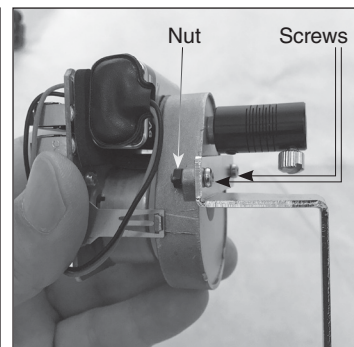

Figure 4. Remove the pre-installed bracket by unscrewing the two attachment screws.
2. Using a small Philips screwdriver, remove the two screws that hold the pre-installed bracket on the motor drive (**Figure 4**). Use your finger and thumb to hold the small nut while you turn the screw counterclockwise. If that doesn't work you will have to use a pair of needle-nosed pliers or a small adjustable wrench to hold the nut when turning the screw.